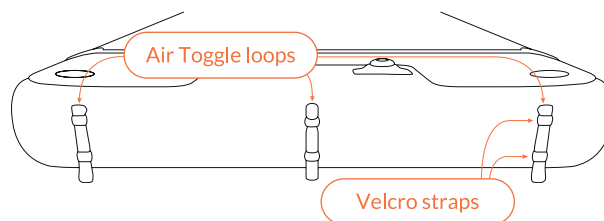
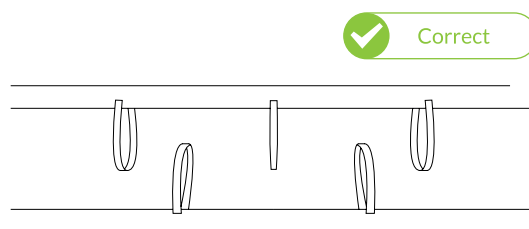

Fig 72 – Undo the Velcro straps to release the Air Toggle loops
Fig 73 – Correct alignment of Air Toggle loops
3. They must be brought together so that the Air Toggle loops are staggered in between each other (Fig 73).
4. Ensure the Air Toggle loops are all unfastened by releasing the two Velcro straps (Fig 72) and that they sit in between each other (Fig 73)